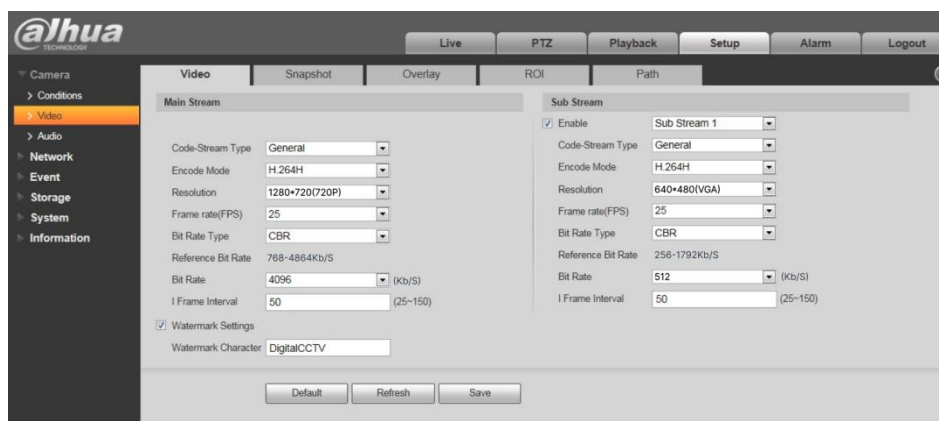

Figure 5.8
(4) The configuration of Dahua cameras can refer to Figure 5.8.